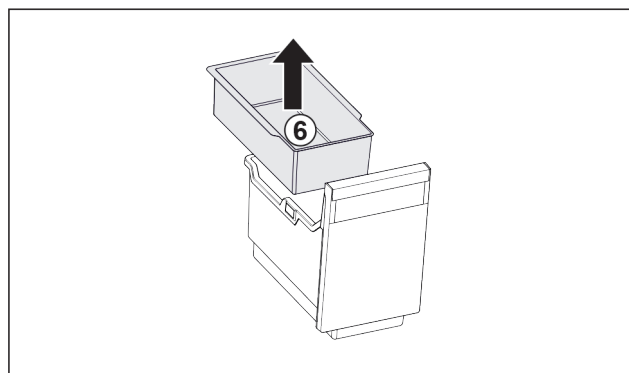

Fig. 32
- ▶ Remove the hang-on tray Fig. 32 (6).